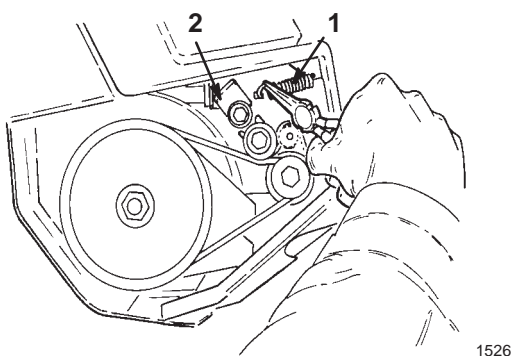

Figure 18
2. Remove the idler spring from the idler arm (Fig. 18).